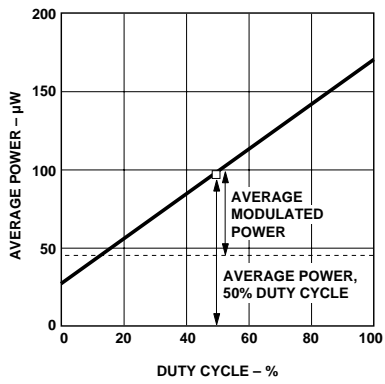

Figure 3. Average Modulated Power.
2. To allow the LED to switch at high speeds, the recommended drive circuit modulates LED light output between two non-zero power levels. The modulated (useful) power is the difference between the high and low level of light output power (transmitted) or input power (received), which can be measured with an average power meter as a function of duty cycle (see Figure 3). Average Modulated Power is defined as one half the slope of the average power versus duty cycle: